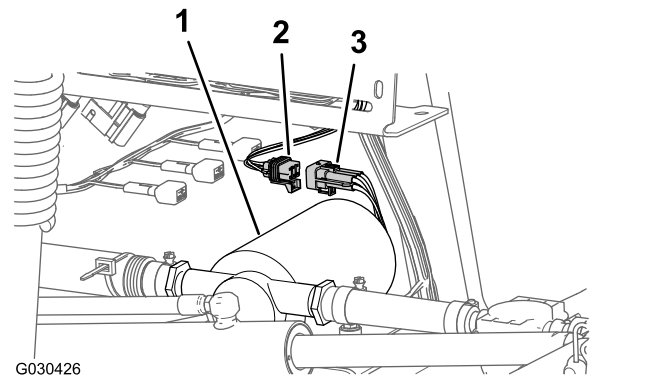

Figure 6
2. Disconnect the 6-pin connector of the rinse-pump harness from the 6-socket connector of the rear main harness (Figure 6).